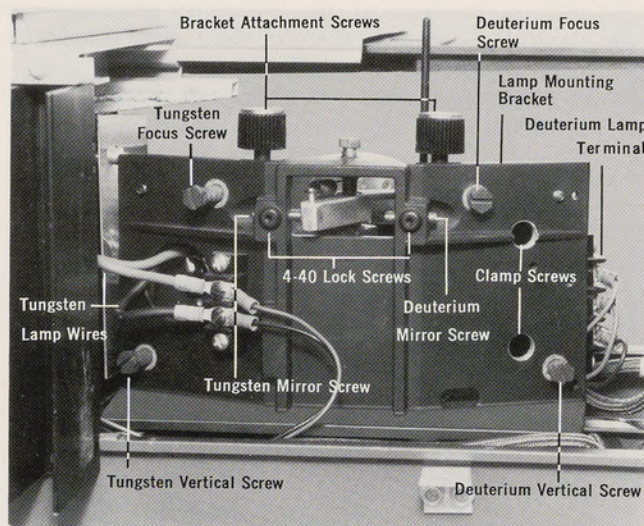

Figure 25. Rear View of Source Compartment
3. Replacement of the lamps is much easier if the lamp mounting bracket is turned to make lamps more accessible. This is accomplished by loosening the two bracket attachment screws, Figure 25, and then twisting the lamp mounting bracket to expose the lamps.
4. Loosen screws that secure tungsten lamp wires to terminals, Figure 25, enough so that pigtail leads can be slipped from behind the screws.
7. Connect tungsten lamp wires to terminals, Figure 25, and tighten screws.
- e. Loosen the 4-40 lock screw that holds the tungsten mirror screw, Figure 25, in place. Now adjust the tungsten mirror screw for maximum energy (minimum A) reading on the Digital Display.
- f. Now the tungsten focus and vertical screws, Figure 25, are adjusted for maximum energy (minimum A). This should be done with care since only slight adjustment of these screws should be necessary. These adjustments are not independent of the preceding mirror adjustment.
3. Replacement of deuterium lamp is much easier if the lamp mounting bracket is turned to expose lamps. This is accomplished by loosening the two bracket attachment screws, Figure 25, and then twisting the lamp mounting bracket to expose lamps.
4. Locate deuterium lamp wires, Figure 25, and notice how they are connected to terminal strip; blue on top, red in middle, and black on bottom. Now loosen screws enough so that pigtail connectors of lamp wires can be removed from behind screws.
6. For protection, wrap a cloth around the lamp and then loosen the clamp screws, Figure 25, until the lamp can be removed from between the clamps.
- f. Loosen the 4-40 lockcrew that holds the deuterium mirror screw, Figure 25, in place. Now adjust the deuterium mirror screw for maximum energy (minimum A) reading on the Digital Display.
- g. Now the deuterium focus and vertical, Figure 25, are adjusted for maximum energy (minimum A). This should be done with care since only a slight adjustment of these screws should be necessary. These adjustments are not independent of the preceding mirror adjustment.